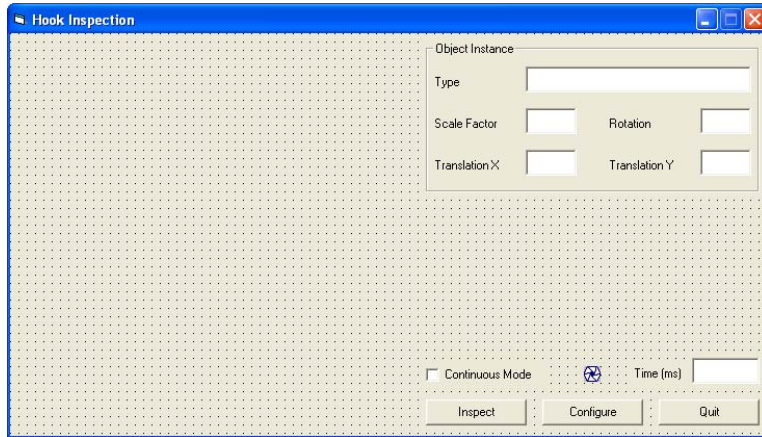

Figure 63 Resized Visual C++ Dialog for Tutorial 2
1. Start by extending the dialog template. Set the width to approximately 486 and the height to approximately 239. Reorganize the text boxes and buttons to look like the dialog in Figure 63.